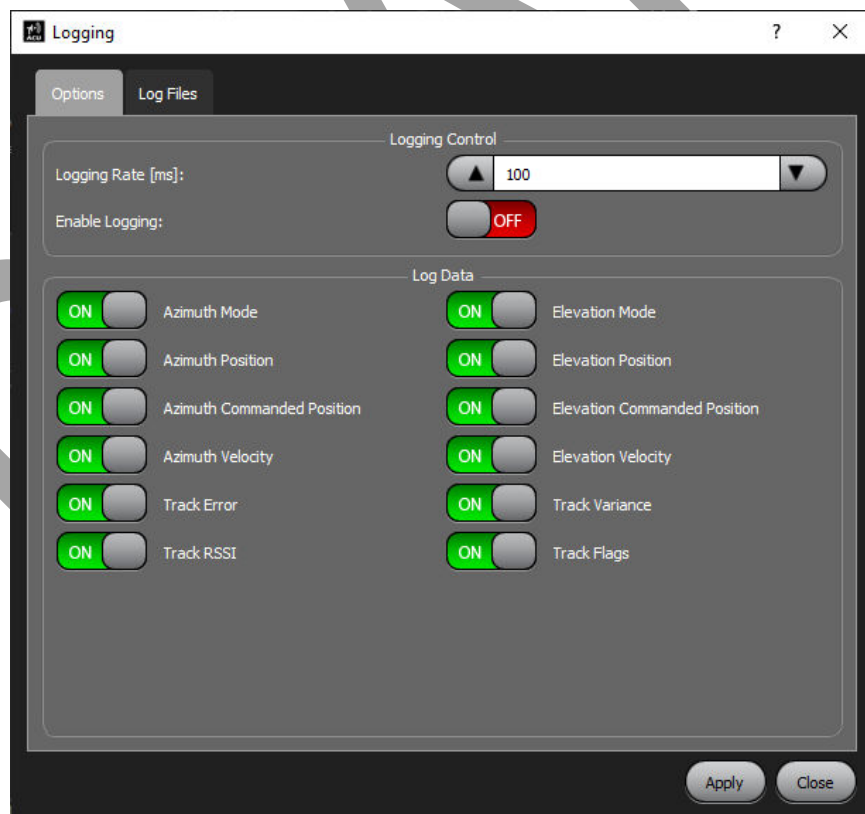

Figure 36: Logging Window
1. Select the Logging button to access the Logging window. The Options tab is shown in Figure 36.